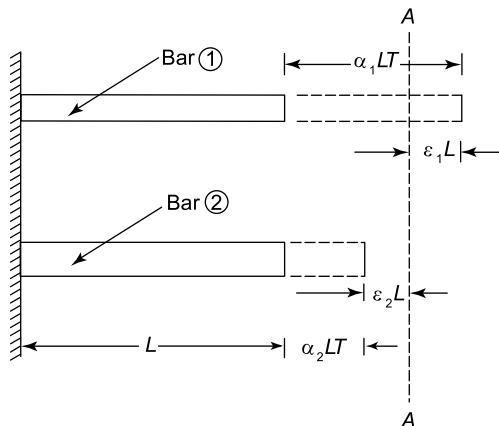

Figure 2.13 'Deflections' of compound bar
There are two unknown forces in these bars, namely  $F_1$  and  $F_2$ ; therefore, two simultaneous equations will be required to determine these unknown forces. The first equation can be obtained by considering the compatibility (i.e. 'deflections') of the bars, with the aid of Figure 2.13.
In practice, however, the final resting position of the compound bar will be somewhere in between these two positions (i.e. at the position A–A in Figure 2.13). To achieve this, it will be necessary for bar (2) to be pulled out by a distance  $\epsilon_2 L$  and for bar (2) to be pushed in by a distance  $\epsilon_1 L$ , where
From considerations of compatibility ('deflection') in Figure 2.13,